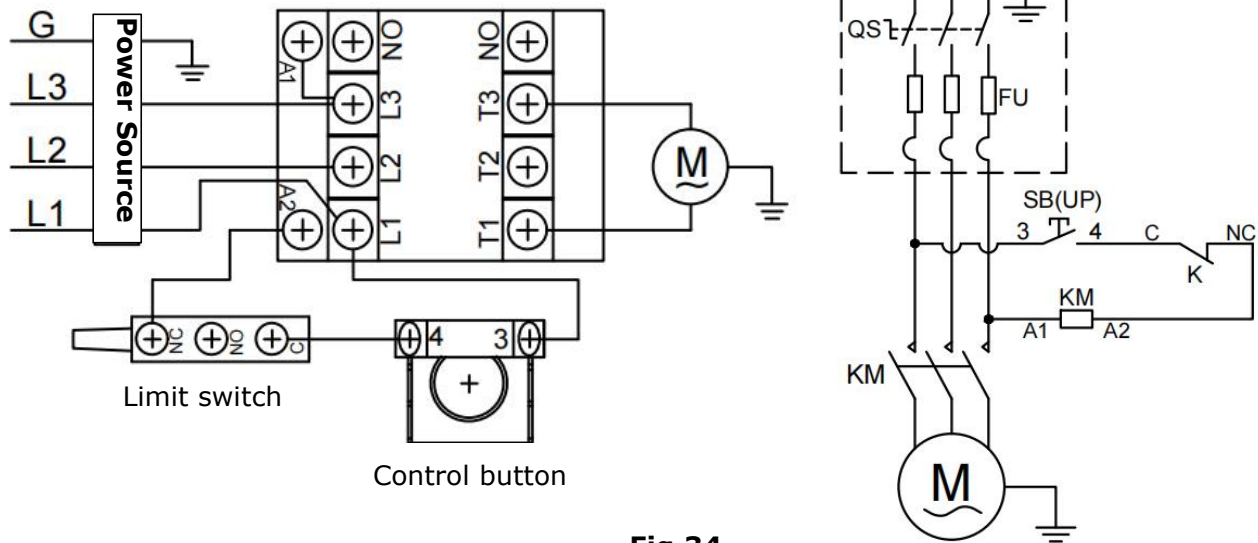

Fig.34
1. Circuit diagram (See Fig. 34)